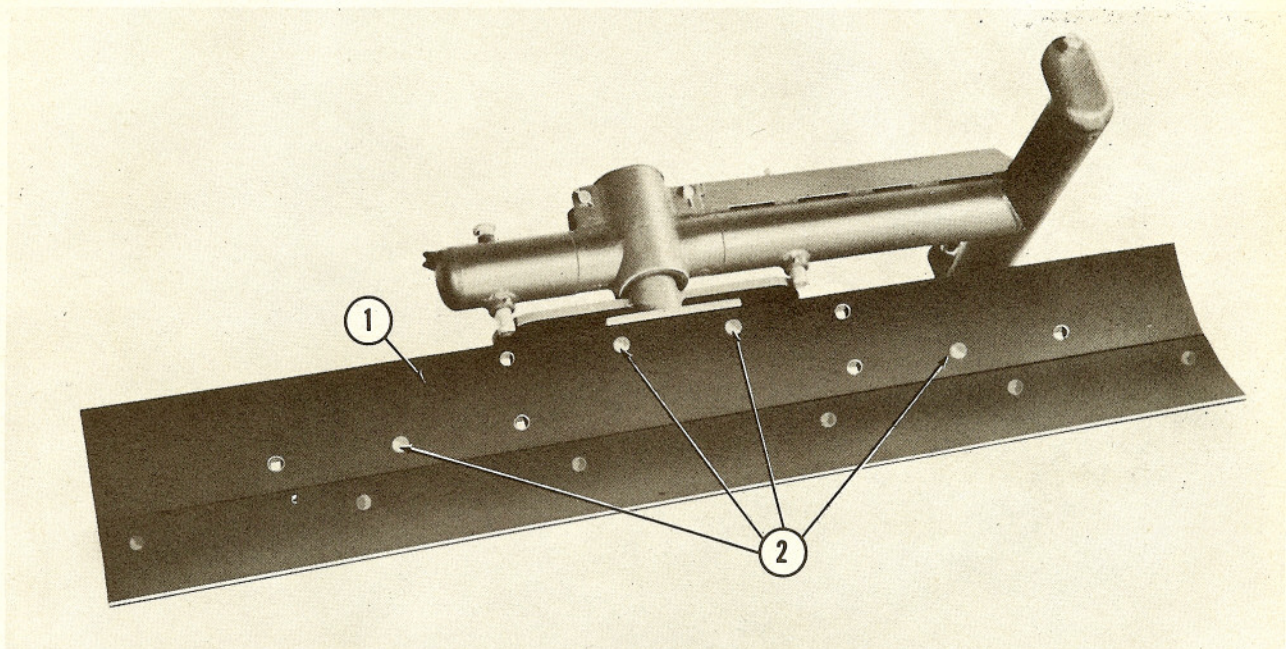
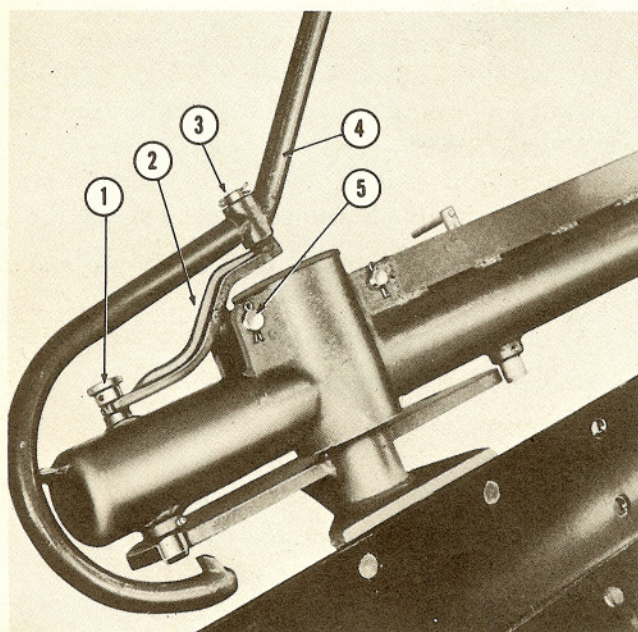

Figure 4
Figure 5
- b. Place the moldboard (1), Figure 4, in position on the mount as shown, so that the two center bolt holes near the top of the moldboard align with the holes in the mount.
- c. Insert the plow bolts (2) and secure with lock washers and nuts.
4. Attach the rocker arm (2), Figure 5, to the rear of the main frame as follows:
- a. Remove the rocker arm pin (5).
- b. Pull up on the rear lock pin (1).
5. Place the control handle (4) on the vertical pin (3) on the forward end of the rocker arm as shown in Figure 5. Secure with cotter pin.